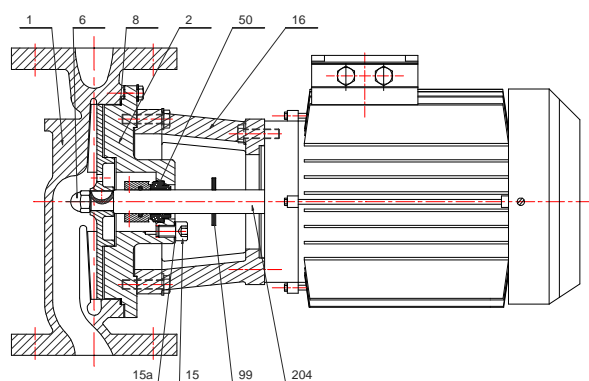

Fig 5
- Pumps 317, 517 and 613 are inline pumps fig. 5 or 6 if sleeve shaft